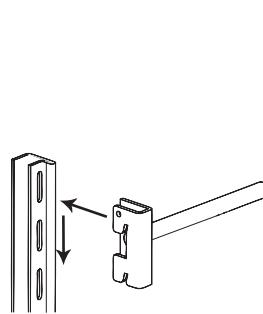

Figure 4
**Step 8:** Attach shelf clamps by inserting them into the slots located on the left side of the standards at the desired heights **Figure 4**. Tap shelf clamp down to lock in place.